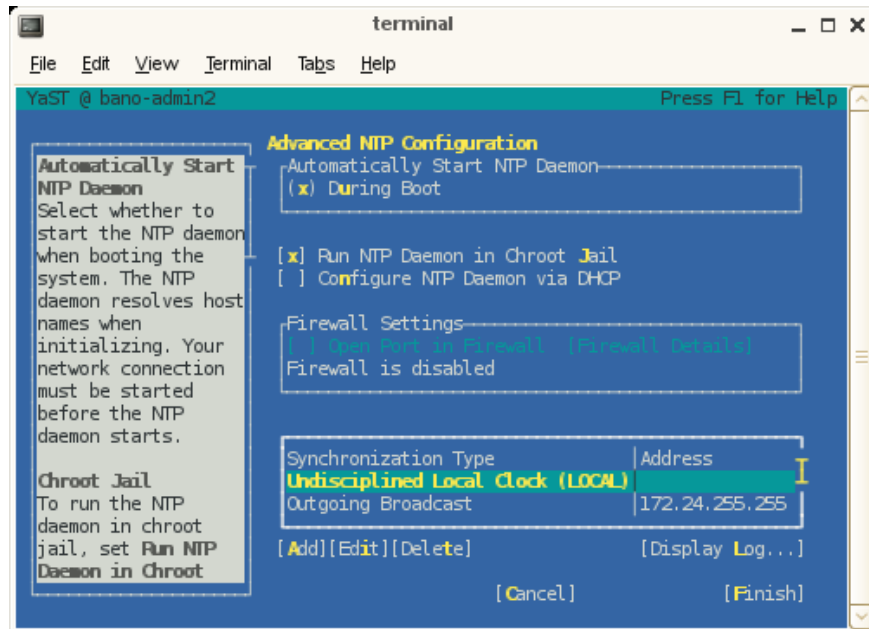

Figure 2-23 Advanced NTP Configuration Screen
14. Configure NTP time service as shown in Figure 2-23 on page 59. Click **Next** to continue.